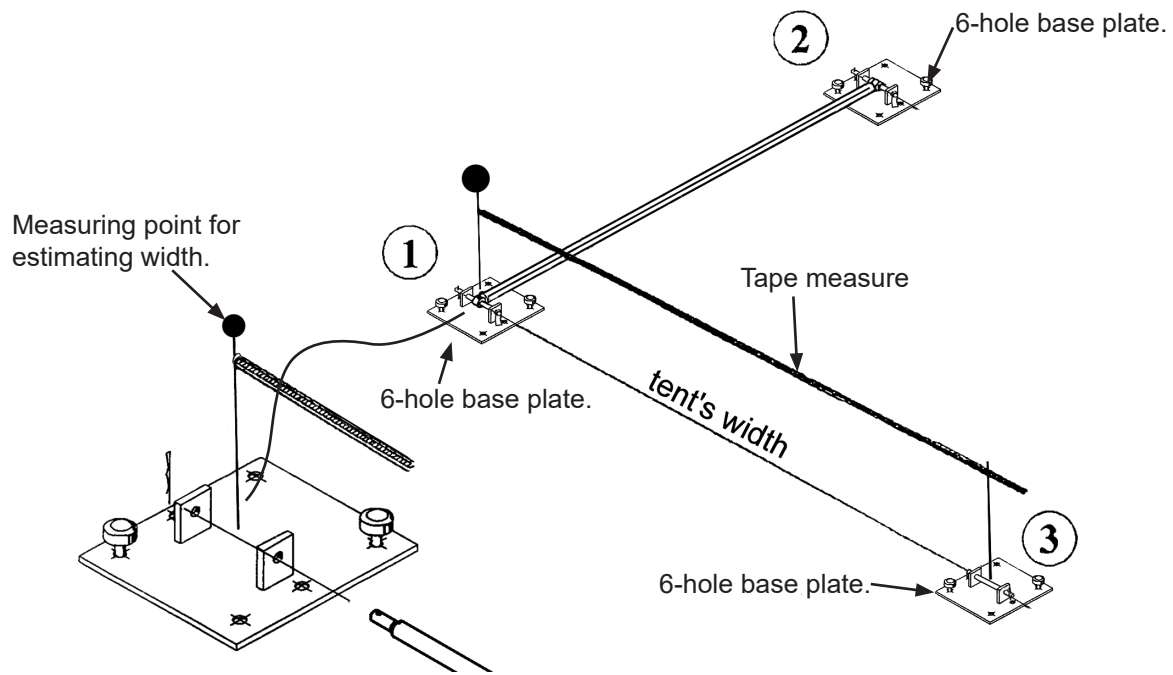

Figure 1.2b
- 1.2.4 Measure the width from the midpoint of base plate #1 to the midpoint of 6-Hole base plate #3 as shown in **Figure 1.2b**. While maintaining the center line distance, orient the front edge of base plate #3 with the front string line. Check the measurement again for the tent width between base plates #1 and #3 and anchor base plate #3 with two (2) stakes.
- 1.2.6 To locate the 6-Hole base plate in-line with base plate #3 (designated as base plate #7 in **Figure 1.2c**), mount the Measuring Rod to base plate #3 and base plate #7 as described in step 1.2.5. Measure the width from the midpoint of base plate #2 to the midpoint of base plate #7 similar to that shown in **Figure 1.2b**. Anchor the base plate with two (2) stakes.